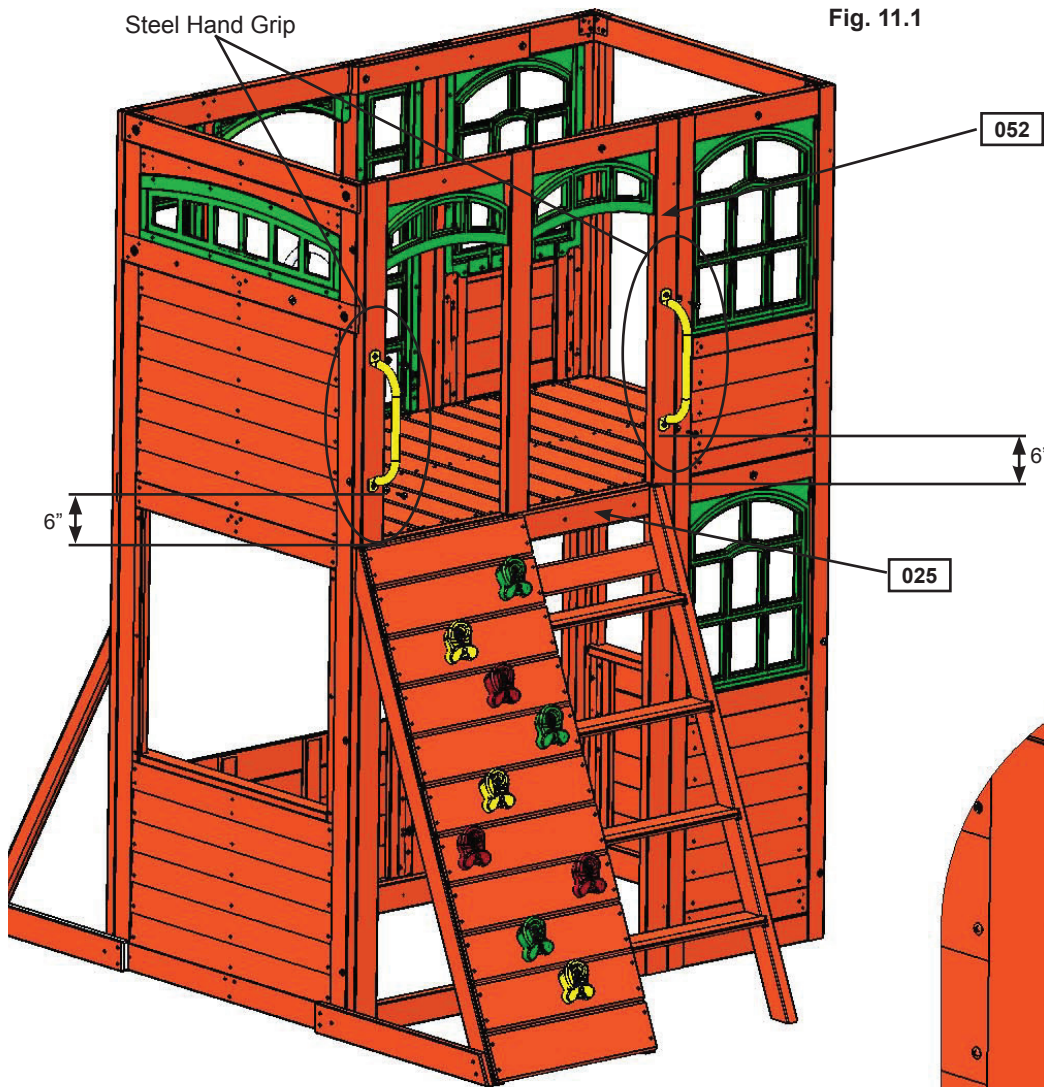

Fig. 11.1
A: Measure 6" from the top of (025) RW/AL Support on (052) Back Wall Panel in the 2 places shown below, pre-drill with a 1/8" drill bit then attach 2 Steel Hand Grips with 2 (WL3) 1/4 x 1-3/8" Wafer Lag (with flat washer) per Steel Hand Grip. (fig. 11.1 and 11.2)